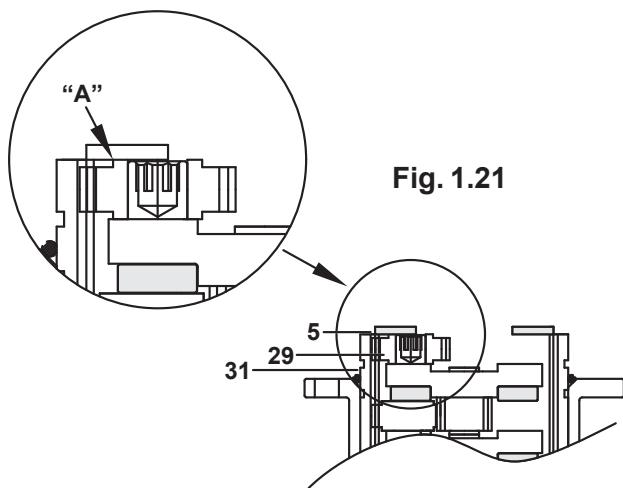

Fig. 1.21
1.5.19) Fit the O-ring pos. 24 and the complete impeller unit (kit "G"), as per Fig. 1.21.